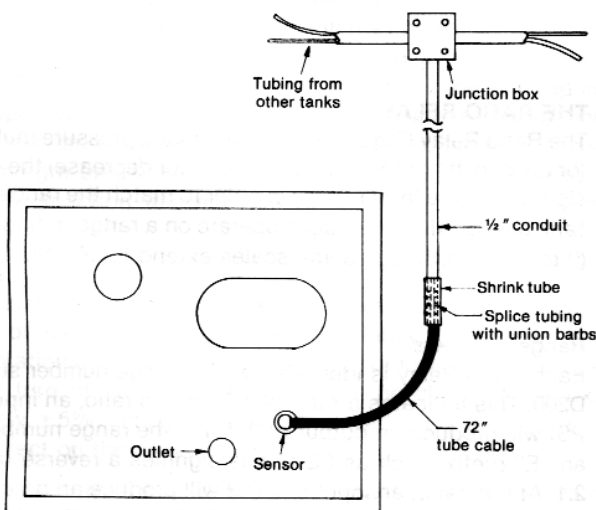

Figure 5
**Conduit.** If using 1/4" poly tubing, it is recommended that the tubing be run in conduit as illustrated in Fig. 5. Run the tubing through conduit from the tank gauge to the tank. Join the tubes with union bars. Union bars will fit inside of conduit